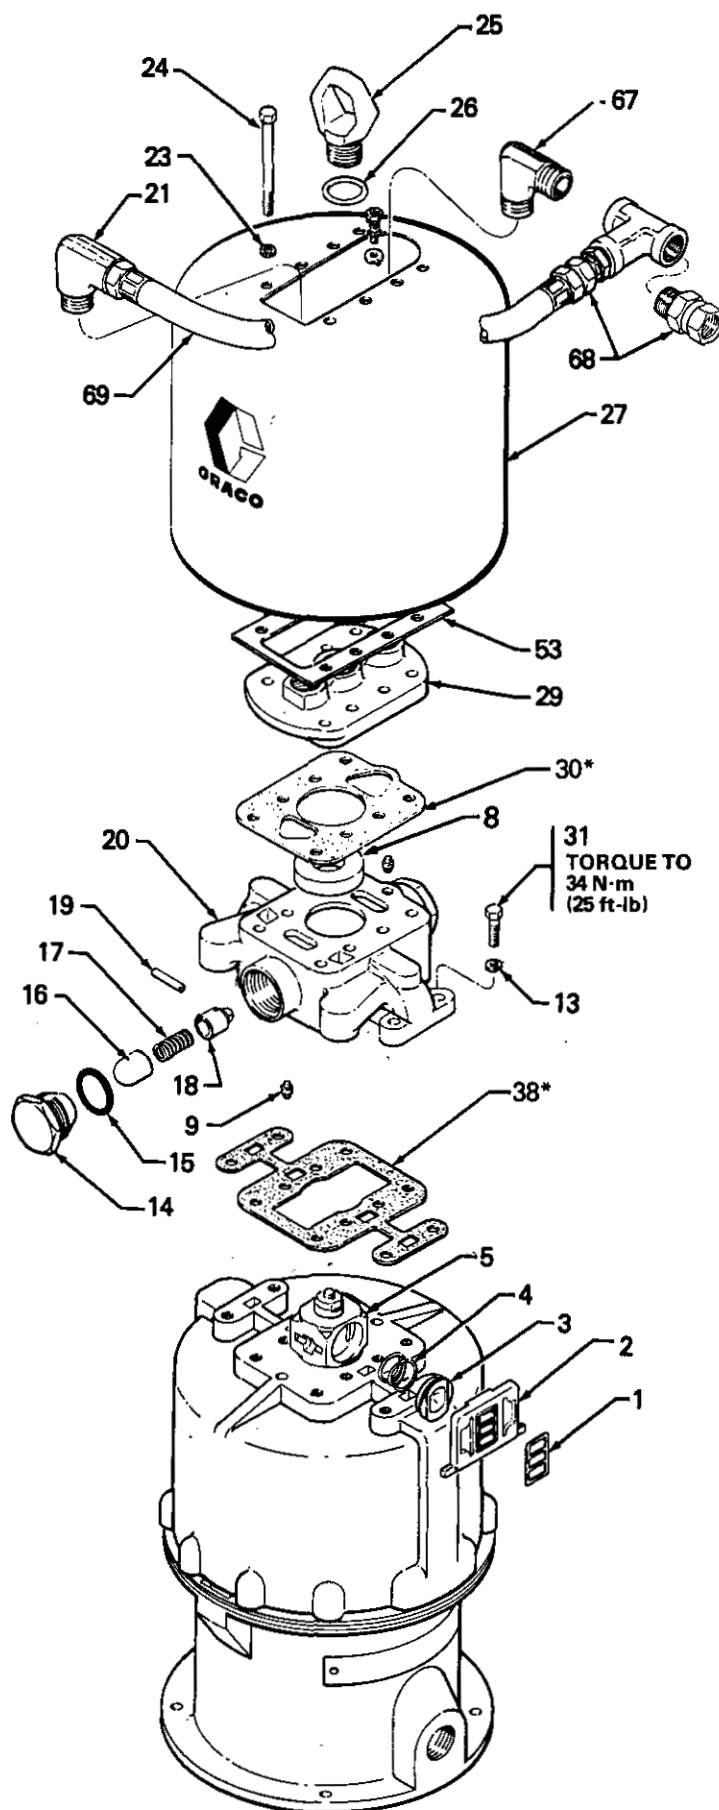

Fig 8
14. Place the gasket (38*) on the air cylinder. See Fig 8.
15. If the valve plates were removed, place a seal (1) on each valve plate (2) and install the valve plates in the air manifold. Reinstall the adjusting screw and nut (11, 12).
16. Place the springs (4) and director valves (3) in the valve housing (5) and hold them in with your thumb and index finger. Place the manifold (20) over the valve housing, push down and release your thumb and forefinger from the director valves. Align the pins (9) with the mating hole in the air cylinder.
18. Grease and assemble the spring housings (18), pins (19), springs (17) and guides (16). Install the assemblies in the manifold openings, making sure the housings and pins align properly with the slots in the valve housing (5). Place an o-ring (15) on each retainer (14) and screw them into the manifold.
19. Place a bumper (8) in the manifold so the ribbed side faces out.
20. Place the gasket (30*), manifold cap (29) and gasket (53) on the air manifold. Install the air motor shield (27), screws (24) and lockwashers (23).
21. Screw the elbows (21 and 67) into the outer ports of the manifold cap (29). Connect the hose (69) to the swivel (68). Place the o-ring (26) on the lift ring (25) and screw the lift ring into the manifold cap. See Fig 8.